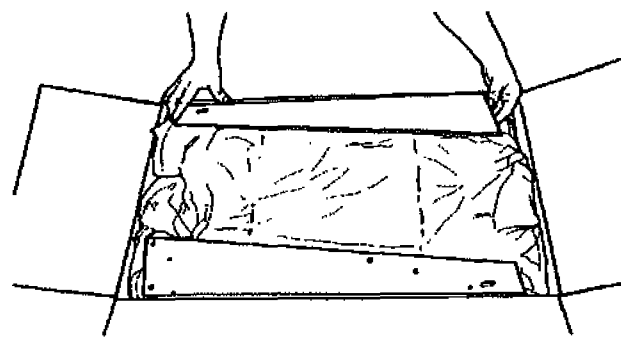

Fig. 12
13. Open the big box and remove the legs (96), as shown in Fig. 12.